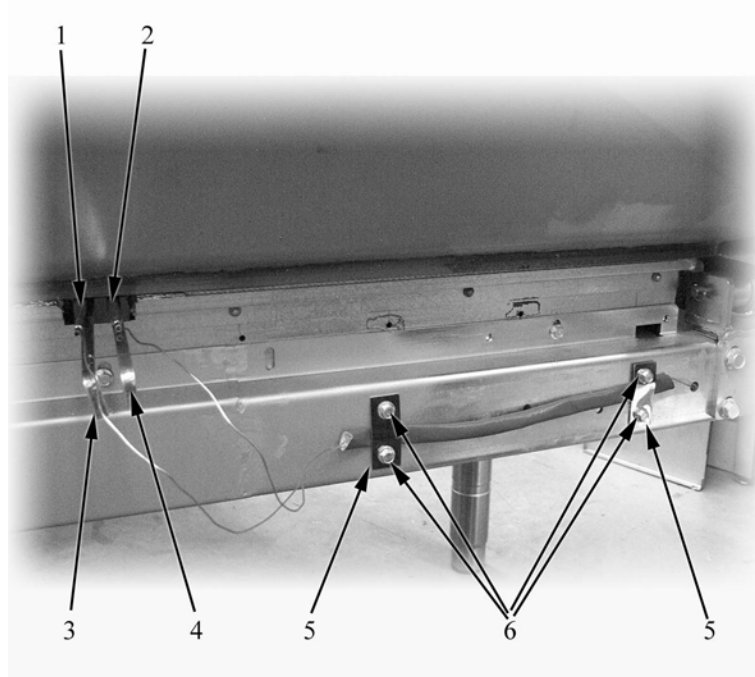

Fig. 19
- loosen the fixing screws (item 6 in Fig. 19) of the plates locking capillary tubes (item 5 in Fig. 19);
- slide the bulb (item 1 in Fig. 19) from the holder by taking out the spring clip (item 3 in Fig. 19);
- slide the bulb (item 2 in Fig. 19) from the holder by taking out the spring clip (item 4 in Fig. 19);